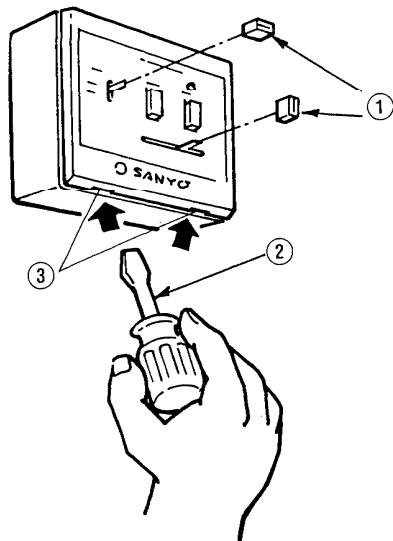

Fig. 11
- 1) Remove the two knobs (1).
- 2) When the screwdriver (2) is inserted for about 1/8" into the notch of the control name plate (3) and raised to the front, the name plate can be removed. Fig. 11